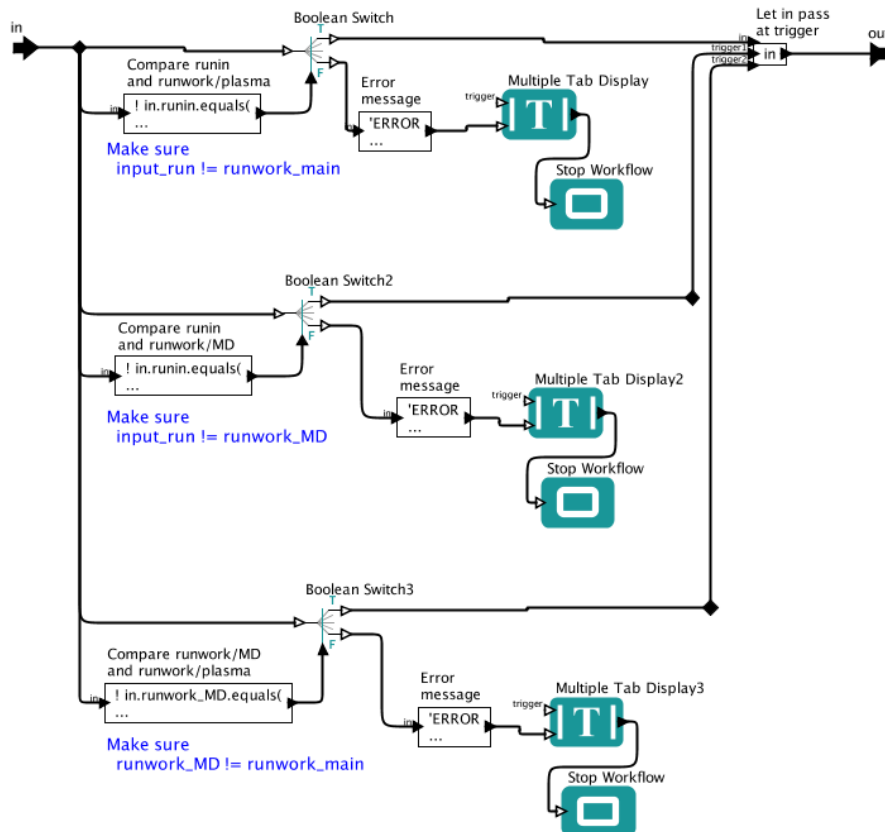

Figure 4. The Validate_Input composite actor, part of UalGetCpoBundle .
- The first of these actors is `Validate_Input` (see figure 4), which checks the three input run numbers to make sure they are all different.